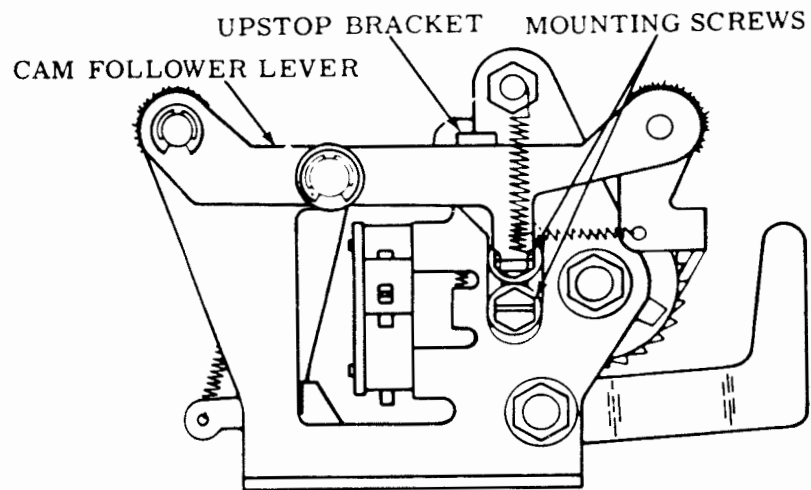

Figure 8-5. Time Delay Mechanism
d. Enabling Time Delay Mechanism. If the set is equipped with a time delay mechanism, the upstop bracket (figure 8-5) must be raised before the mechanism will function properly. Instructions for disabling and enabling time delay mechanism are as follows:
(1) Remove cover and typing unit.
(2) To disable: loosen two mounting screws on upstop bracket; lower upstop bracket to its bottom position; tighten mounting screws.
(3) To enable: loosen two mounting screws on upstop bracket; raise upstop bracket to its upper position; tighten mounting screws.
(4) Replace typing unit and cover.